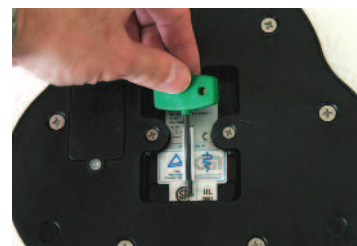

Fig. 3.1.1i
11. Replace the hexdriver back in its holder, Fig. 3.1.1i.